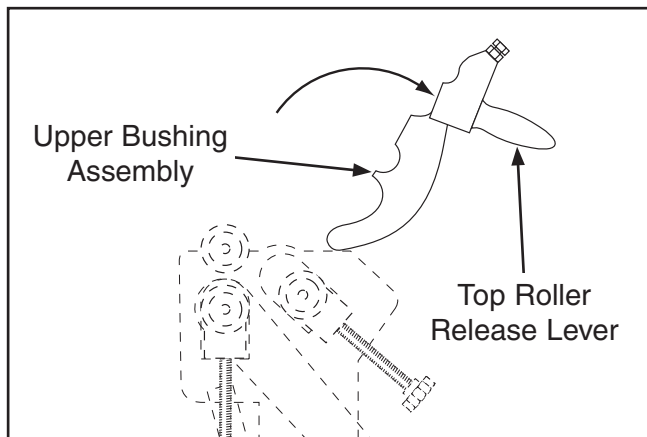

Figure 29. Upper bushing assembly release.
2. Lift the top roller release lever, then open the upper bushing assembly (**Figure 29**).